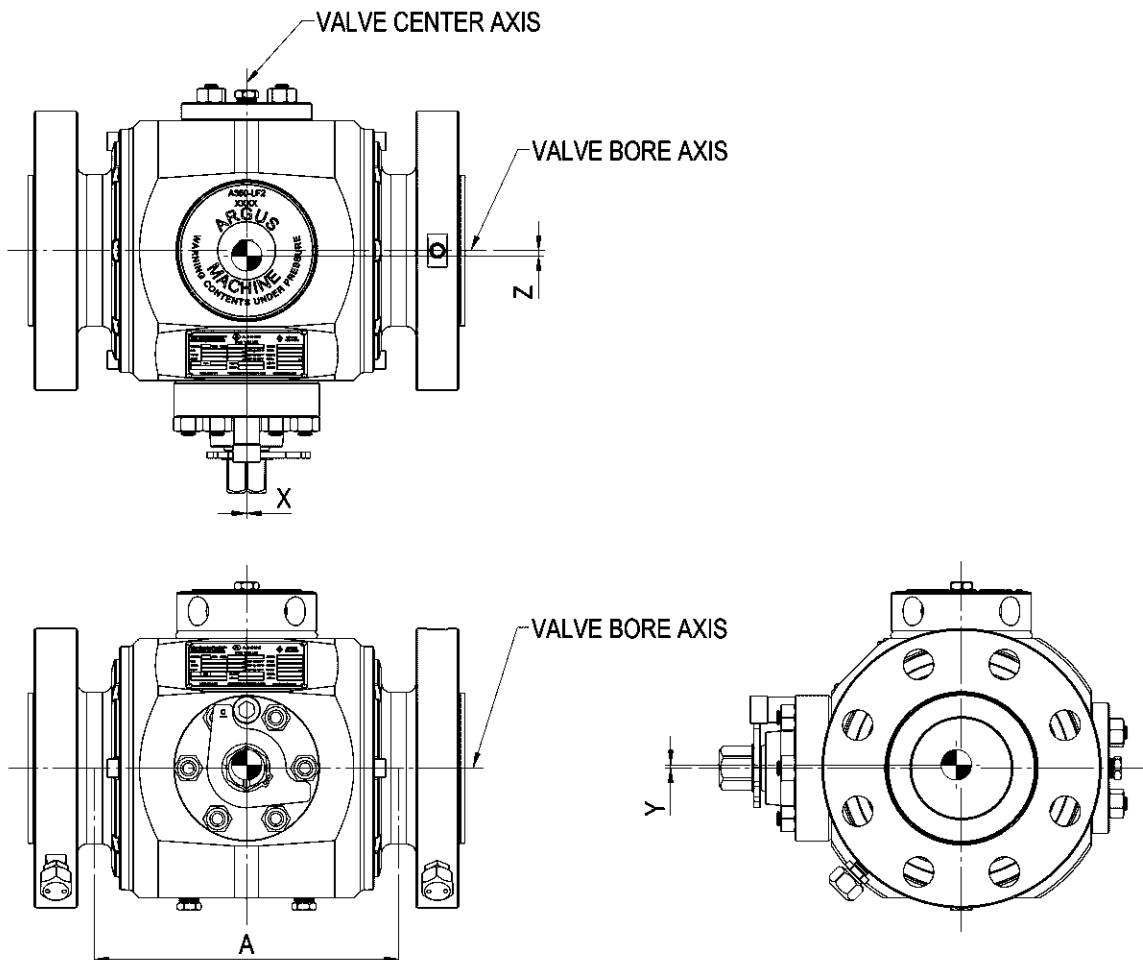

Figure 1.0: Pig Valve Center of Gravity
2.4 Wrap the sling around the neck area of the tailpieces on either side of the Pig Valve. Ensure sufficient length of the sling to give a sling angle of 45° or greater. See Figure 1.0 for details.